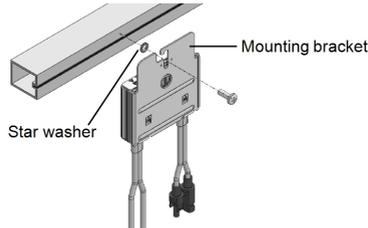

Figure 6: Power optimizer installation and grounding using a star washer
- Determine the power optimizer mounting location and use the power optimizer mounting brackets to attach the power optimizer to the support structure (See *Figure 6*). It is recommended to mount the power optimizer in a location protected from direct sunlight. For frame-mounted power optimizers follow the instructions supplied with the optimizers, or refer to https://www.solaredge.com/sites/default/files/installing_frame_mounted_power_optimizers.pdf.